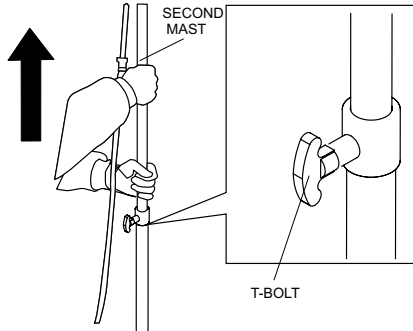

Figure 20. Lowering Second Mast
1. Loosen the T-bolt holding the second mast and push mast all the way down. Tighten T-bolt securely. See Figure 20.